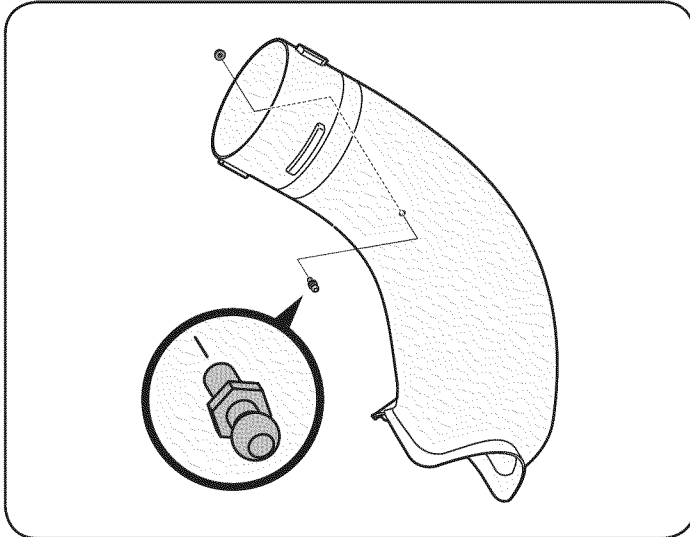

Figure 22
12. Install the grass-catcher pin (911-04069) from hardware pack 689-00092B into the hole provided in the upper portion of the chute elbow and secure with a flange lock nut (712-3027). See Fig. 22.